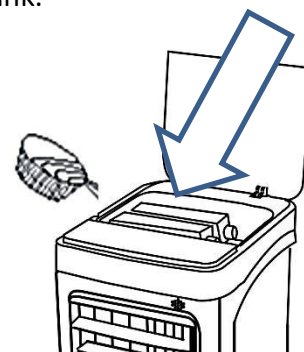

Fig 3
- e) **IMPORTANT:** Adding water to the top tank (Fig 3): Please add water slowly. Do not fill water above the top plane (see arrow) when adding water. Ensure the level of water does not exceed the “MAX” scale of the bottom water tank.